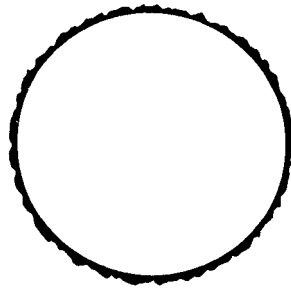

Fig.1
1. Complete Fig.1. to show the "Through and Through" method of timber conversion.